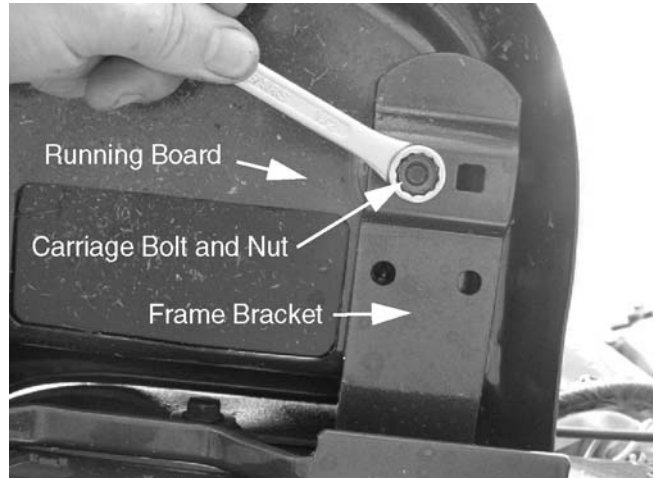

Figure 11-43
8. Remove the nuts from the carriage bolts that secure the front corner of each running board to frame brackets using a 1/2" wrench. See Figure 11-43.